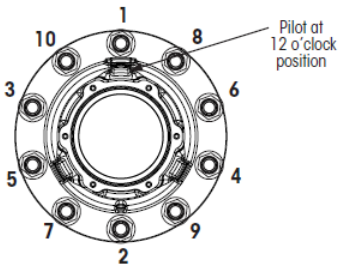
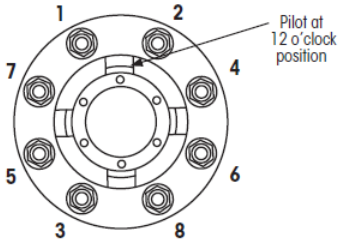

Figure 21: 10 stud tightening sequence
Figure 22: 8 stud tightening sequence
- 8. Using sequence shown in Figure 21 and Figure 22, **tighten** all wheel nuts to 50 ft. lbs. (68 Nm) of torque.